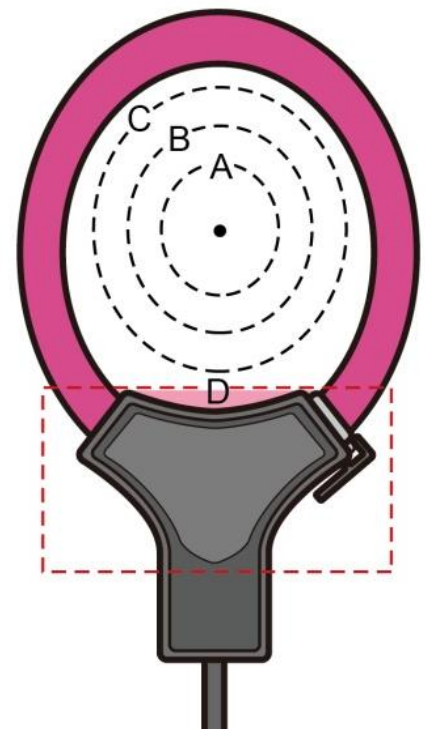

Figure 1.0
1. The ICP DAS Rogowski power meter is calibrated with the conductor positioned at the center (Position A in Figure 1.0), which is the ideal location to ensure measurement accuracy.
2. The Rogowski coil is not a completely closed circular structure, as it has a connection joint. The dashed area at Position D in Figure 1.0 indicates the location of this connection. It is known that when the measured conductor is placed closer to this area, the measurement error increases because magnetic flux variations in that section cannot be properly detected. Please avoid measuring current within the dashed area, as doing so may result in measurement errors exceeding $\pm 5\%$. Moreover, external magnetic flux can also affect the connection section, further increasing measurement errors.